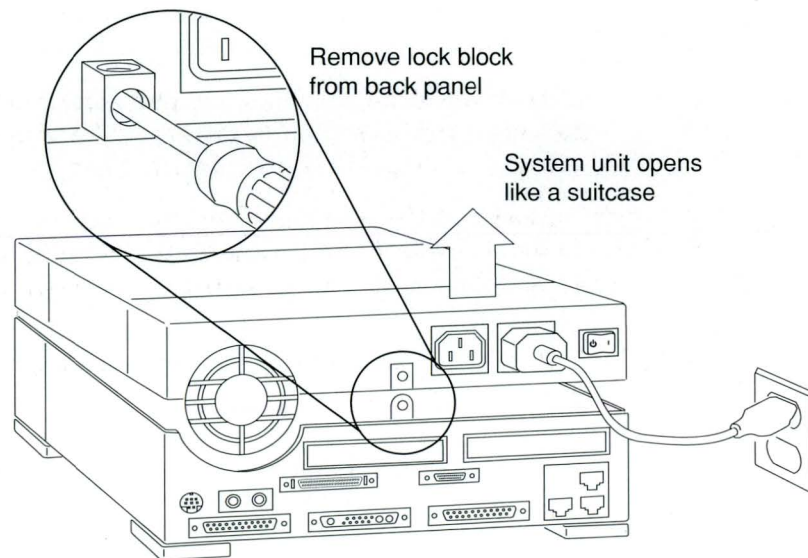

Figure F-1 Opening the System Unit
3. **Remove the screw that secures the lock block to the back panel (see Figure F-1).**
4. Grasp the unit top at its rear corners and carefully open the system unit like a suitcase (Figure F-1).